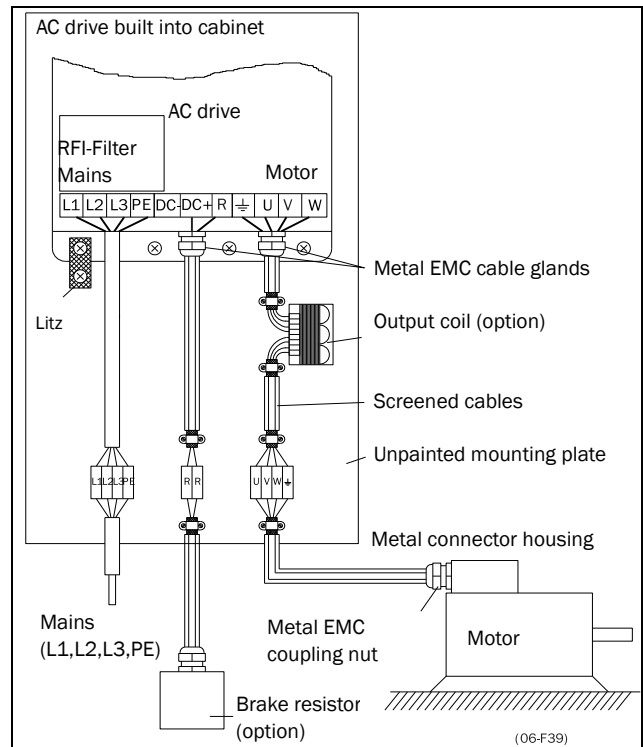

Fig. 21 AC drive in a cabinet on a mounting plate
- The litz ground connection see fig. 21, is only necessary if the mounting plate is painted. All the AC drives have an unpainted back side and are therefore suitable for mounting on an unpainted mounting plate.
- The litz ground connection, see fig. 21, is only necessary if the mounting plate is painted. All the AC drives have an unpainted back side and are therefore suitable for mounting on an unpainted mounting plate.
If the motor cables are to be interrupted by maintenance switches, output coils, etc., it is necessary that the screening is continued by using metal housing, metal mounting plates, etc. as shown in the Fig. 21.
- If the AC drive is mounted in a standard cabinet, the internal wiring must comply with the EMC standard. Fig. 21 shows an example of a AC drive built into a cabinet.